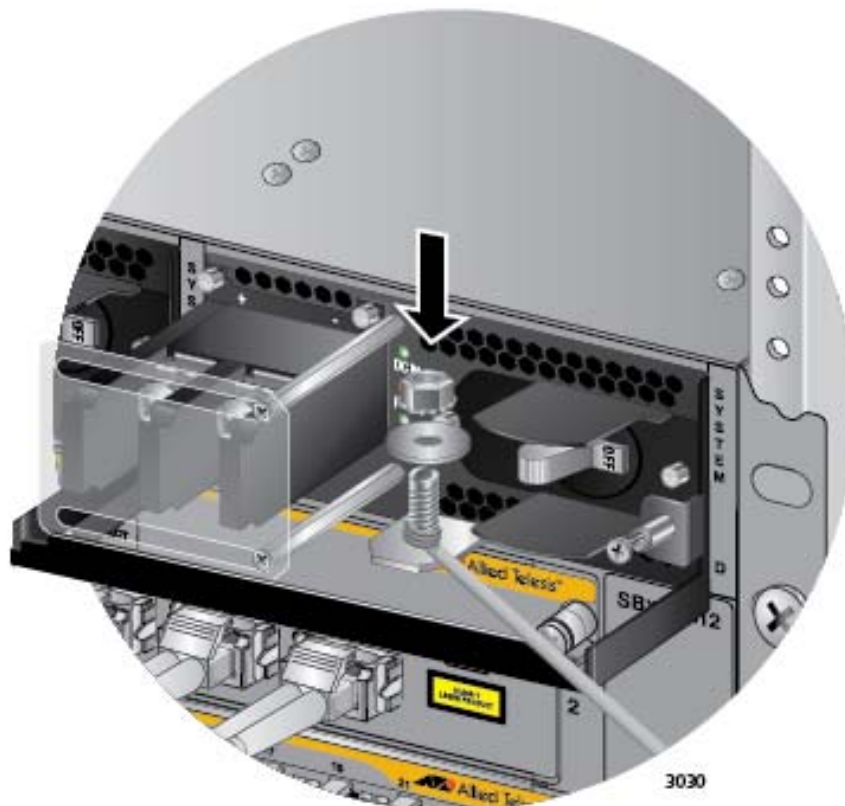

Figure 136. Securing the Bare Grounding Wire to the Grounding Post
- Secure the wire with the nut and washer removed in step 2, and an 8 mm wrench, as shown in Figure 136.